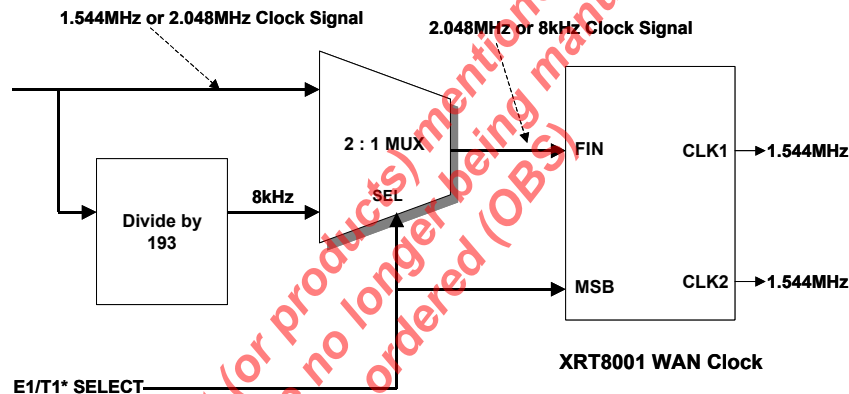
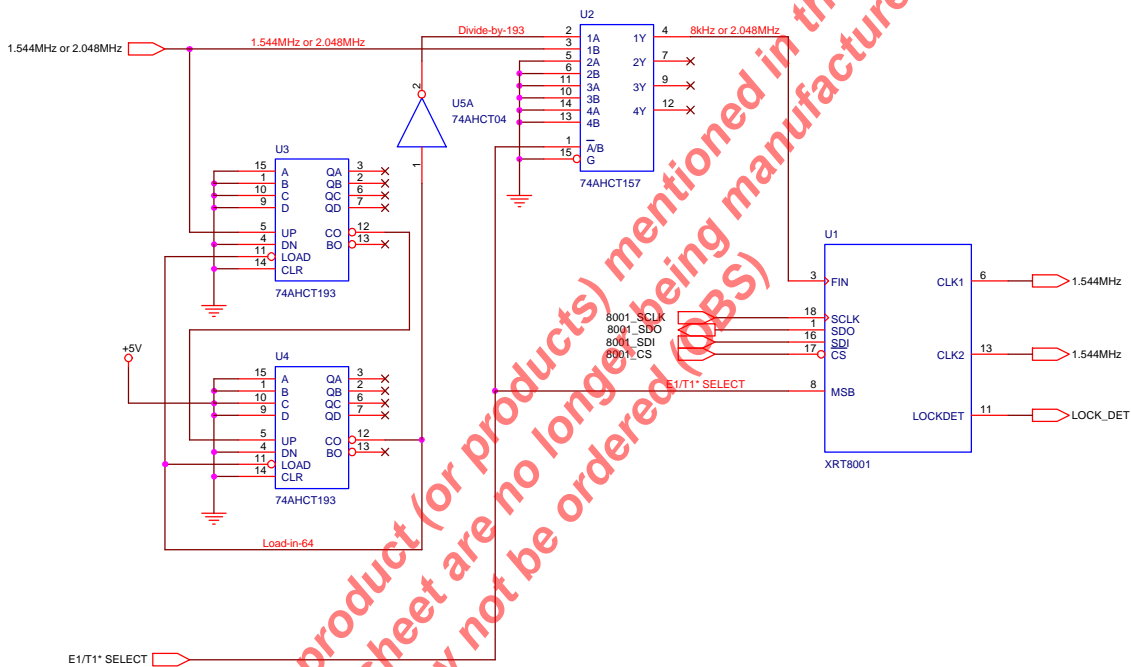

Figure 23: Synthesizing a 1.544MHz clock signal from a 1.544MHz or 2.048MHz clock
Figure 24: Hardware Design Implementation of Figure 23.
In Figure 23, the 1.544MHz or 2.048MHz input clock signal is routed to two locations.
Figure 23 also includes a digital “E1/T1* SELECT” signal. This signal is connected to both the “SEL” input of the “2:1 MUX” and the “MSB” input of the XRT8001 WAN Clock. The basic idea behind this schematic is as follows:
Figure x presents a simple block diagram of a design that can accept either a 1.544MHz or a 2.048MHz clock signal, and synthesize a 1.544MHz clock signal. Now we need to provide some details. Hence, Figure 24 presents a circuit schematic which realizes the function, depicted in Figure 23.
Next, we describe how to configure the circuitry in Figure 24 to accept a 2.048MHz clock signal, and configure it to synthesize a 1.544MHz clock signal by executing five steps. We also describe how to accept a 1.544MHz clock signal and configure it to synthesize a 1.544MHz clock.
Configuring the Circuitry in Figure 24 to accept a 1.544MHz clock signal and synthesize a 1.544MHz clock signal.
Once the user has executed these four (4) steps, then the circuitry in Figure 24 is configured to accept a 1.544MHz clock signal (from the T1/E1 LU) and synthesize a 1.544MHz clock signal.